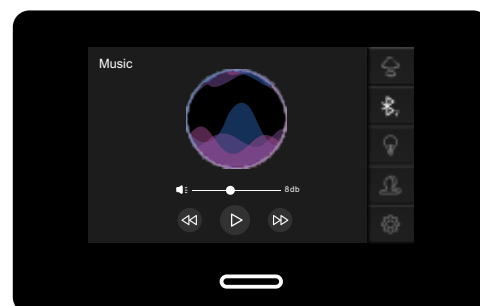

Figure 4
- When the music is playing, press  or  to switch to the previous song or the next song. (Figure 4)